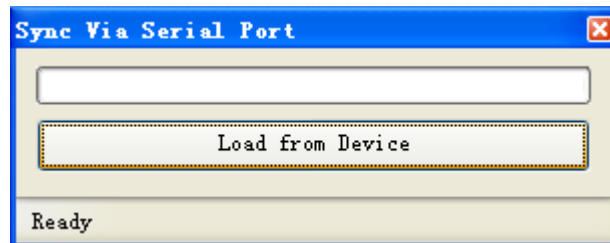

Figure 8-27 Obtain Data
- Obtain the OLT properties files and select Tools/OLT CLI Read in the menu to display the window shown in the Figure 8-27, and then click Load from Device;